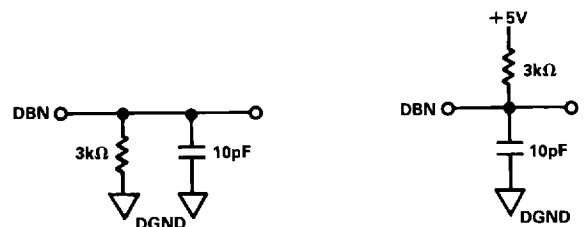

Figure 4. Load Circuits for Output Float Delay (t₁₃)
- t₁₃ is defined as the time required for the data lines to change 0.5V when loaded with the circuits of Figure 4.